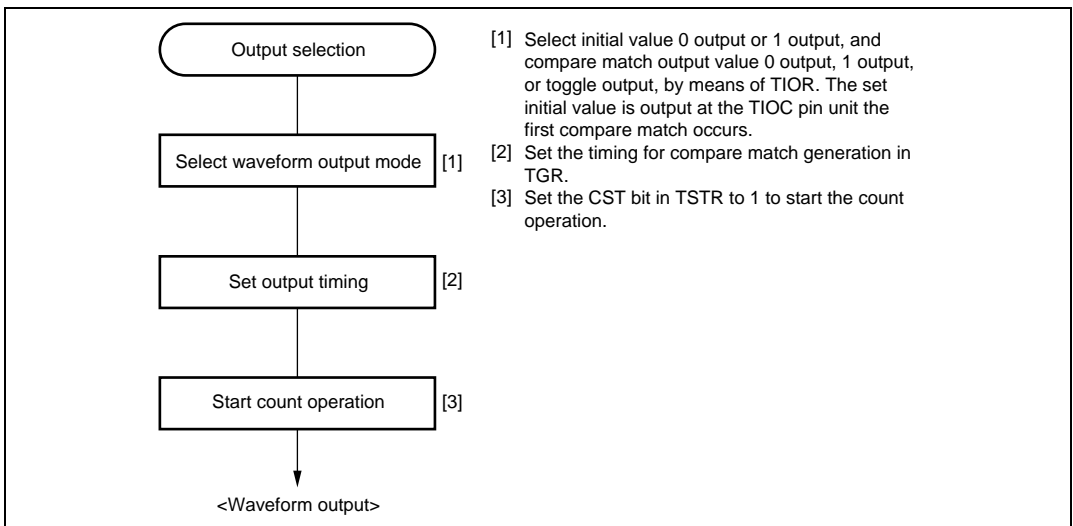

Figure 8.5 Example of Setting Procedure for Waveform Output by Compare Match
1. Example of setting procedure for waveform output by compare match: Figure 8.5 shows an example of the setting procedure for waveform output by compare match